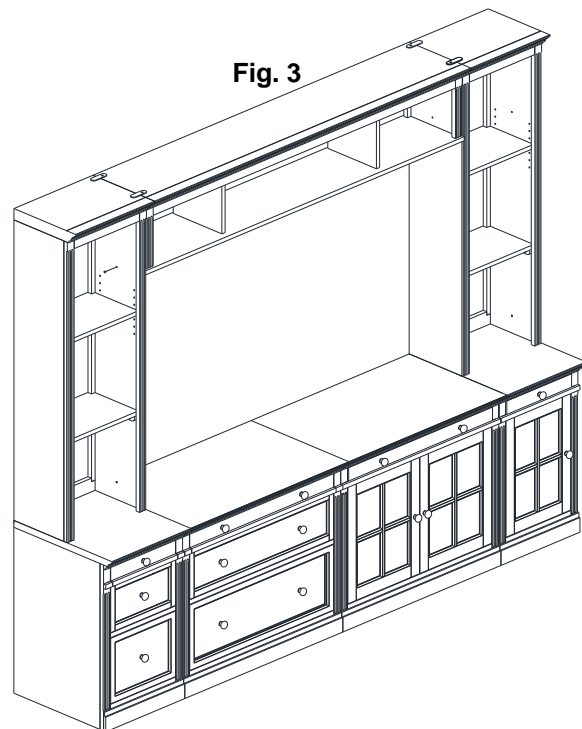

Fig. 3
- Align the holes at side panels of all cases and insert the connector bolts (D & D') then tighten with a screwdriver (Not Included) as shown in **fig. 3, illustration. 3**.